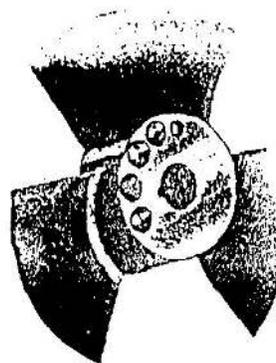

Figure 9: Propeller
(B) PACKING BOX DESIGN (figure 10): A propeller, shown in figure 9, is designed to operate best approximately half way between its upper and lower limits of travel in the cylindrical section of the discharge or intermediate bowl.